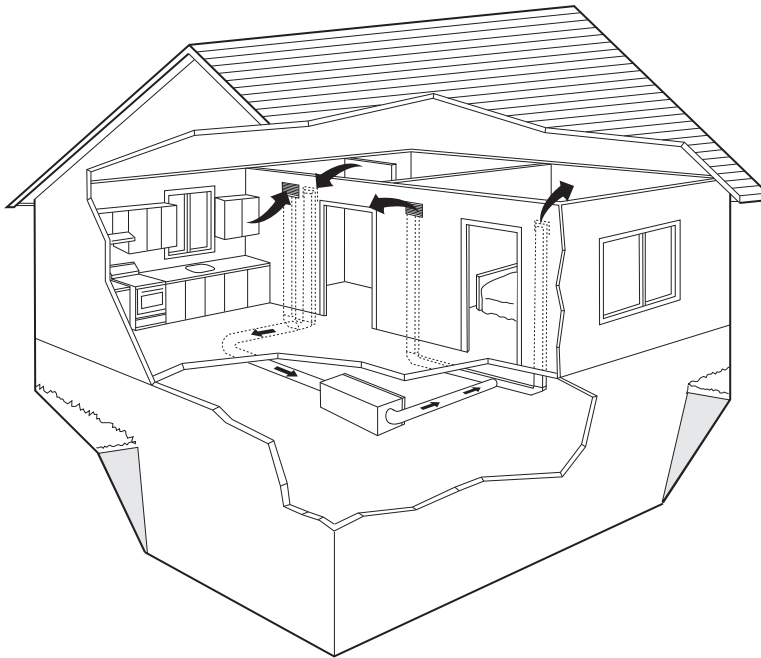

Figure 4
1. Install (2) 7" collars (provided) on TFP cabinet with (8) 8/32" X 3/8" sheet metal screws provided (Fig.4).
2. Ducting will usually consist of one return with grille from one side of the home, and one supply with grille at the opposite end of the home (Fig. 4).